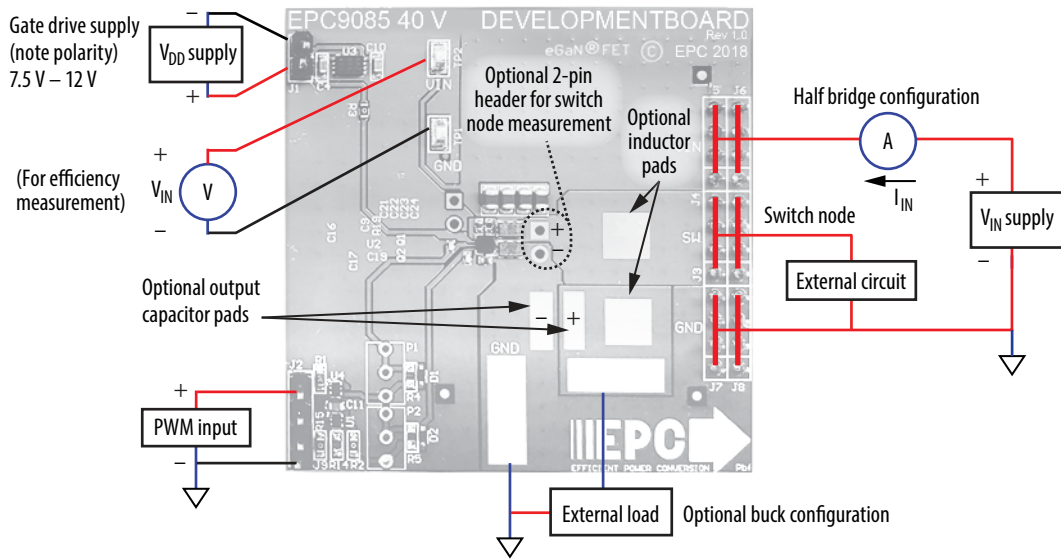

Figure 2: Proper connection and measurement setup
Development board EPC9085 is easy to set up to evaluate the performance of two EPC2049 eGaN FETs. Refer to figure 2 for proper connect and measurement setup and follow the procedure below:
2. With power off, connect the switch node (SW) of the half bridge OUT (J3, J4) to your circuit as required (half bridge configuration). The EPC9085 features an optional buck converter configuration, as shown in figure 2, with unpopulated footprints for an output inductor and output capacitors.